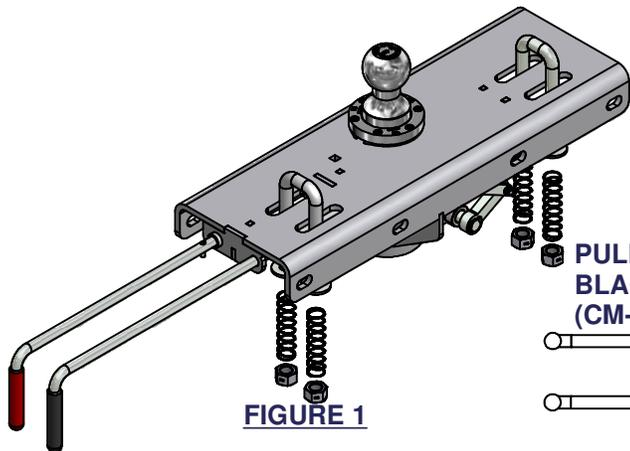

FIGURE 1
- 4) Apply a small amount of multi-purpose grease inside the Choker Pull Rod hole. Place the Compression Spring between the Inner Rod Guide and the Choker. Ensure the Compression Spring is fully seated in the Choker Counterbore. **SEE FIGURES 1 and 2 OF ASSEMBLED UNIT ON PAGE 2.**